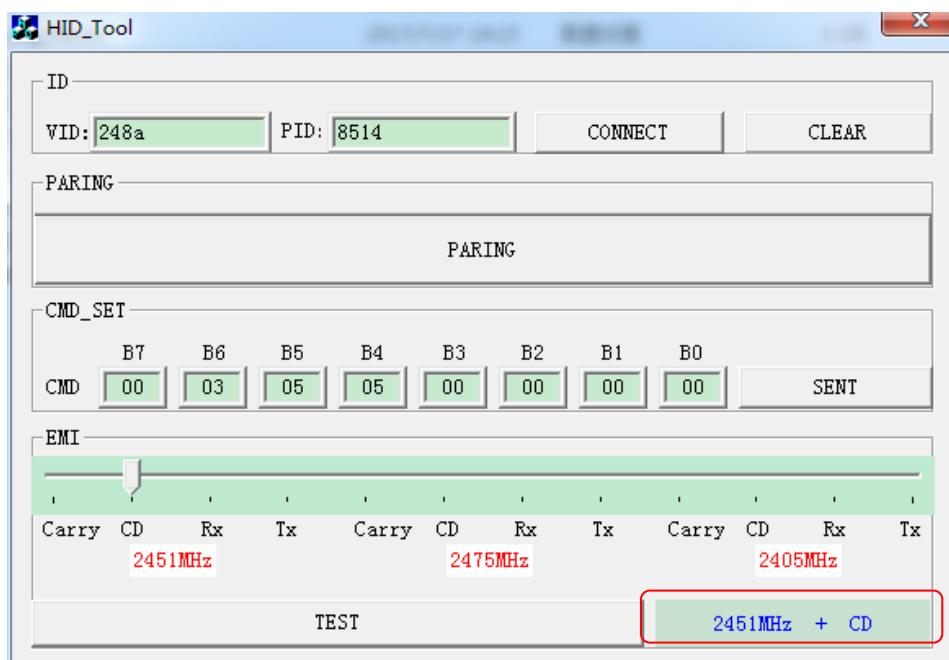

Figure 4- 2 Current test mode and frequency point indication
- 5) After the frequency point and test mode are selected, click the “TEST” button to start testing, as shown in mark 5 of Figure 4- 1.